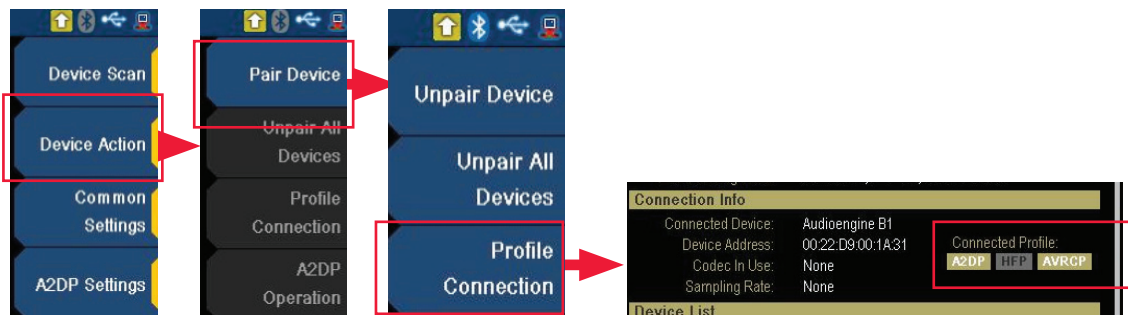

Figure 9. Pair and Connect A2DP Profile
- Select {Profile Connection} → use the [▲▼] key to select {Connect A2DP} → [Enter]. Once the A2DP profile is successfully connected, A2DP will be highlighted in the “Connection Info” display as shown in Figure 9.